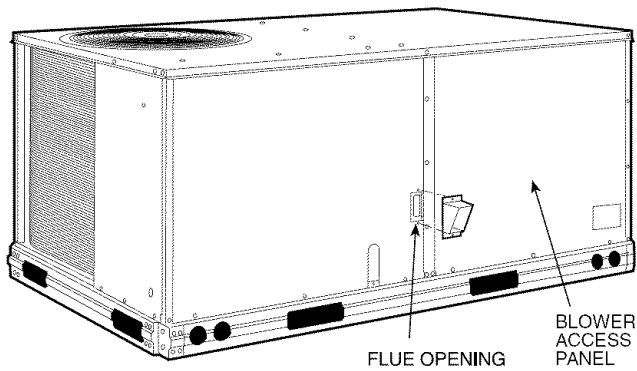

Fig. 7 — Flue Hood Details
Step 5 — Install Flue Hood — Flue hood is shipped screwed to the basepan beside the burner compartment access panel. Remove from shipping location and using screws provided, install flue hood and screen in location shown in Fig. 7.